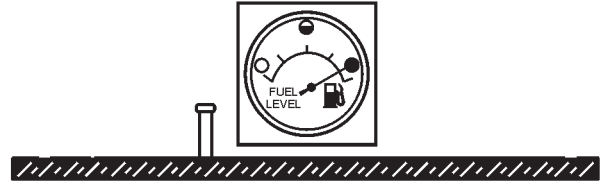

Figure 20. Full Fuel Tank
3. **NEVER overfill fuel tank** — It is important to read the fuel gauge when filling trailer fuel tank. **DO NOT** wait for fuel to rise in filler neck (Figure 20).